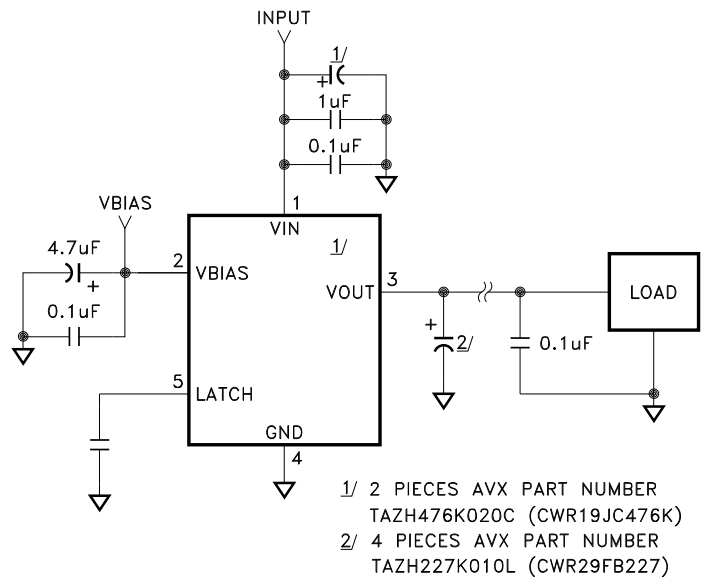

FIGURE 2
- ① Unless otherwise specified, VIN = VOUT + 1V, VBIAS = 5V and IOUT = 10mA. See figure 2 for typical test circuit.
- ② Guaranteed by design but not tested. Typical parameters are representative of actual device performance but are for reference only.
- ③ Industrial grade devices shall be tested to subgroups 1 and 4 unless otherwise requested.
- ④ Military grade devices ("H" and "K" suffix) shall be 100% tested to subgroups 1,2,3 and 4.
- ⑤ Subgroup 5 and 6 testing available upon request.
- ⑥ Subgroup 1,4 TC = +25°C